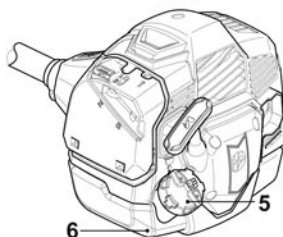

Fig. 10
- > Unscrew the fuel tank cap [5], and remove it (Fig. 10).